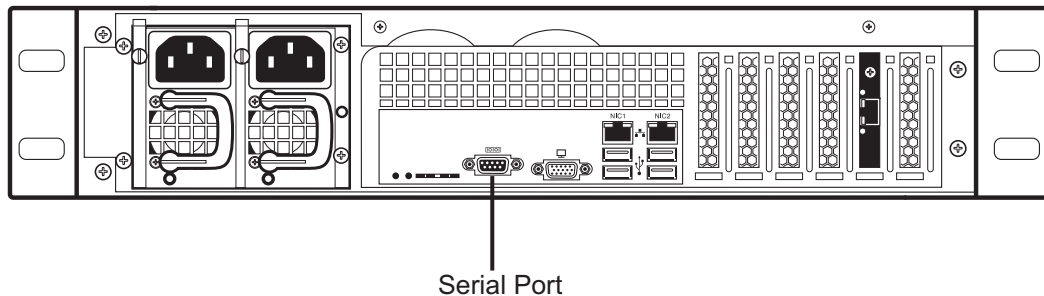

Figure 3.1 Tdev Development Platform Serial Port Connection
1. Connect a male-male DB9 cross-connect cable between the DB9 serial port of your computer and the DB9 serial port of the TMP6400-CTRL. See figure 3.1 on page 54.